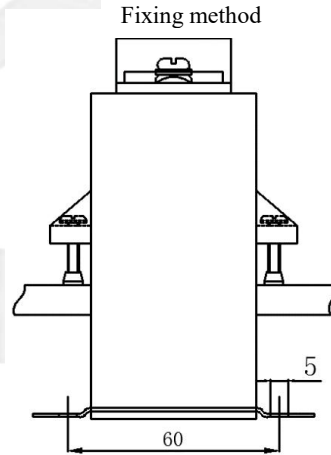

Fig 3
③ Installation Notes:
• When fixing to the bottom plate: take two feet (supplied with the product) and insert them into the foot sockets on the bottom plate as shown in Figure 3. The center distance of the mounting holes is  $60 \times 31$ ; the mounting hole diameter of the feet is  $\Phi 5.0$ ; the transformer can be fixed on the bottom plate with M5 screws.
• When fixing to the busbar: take two M5 bolts and nuts (supplied with the product) and insert them into the slots as shown in Figure 3, and fix the transformer on the busbar.